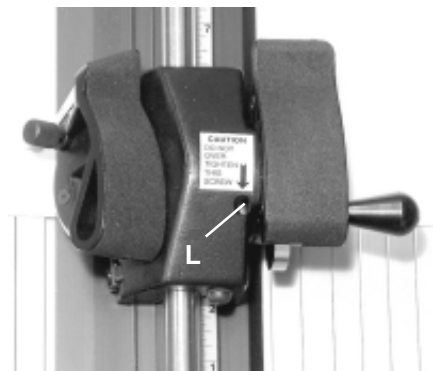

Figure 20
3. If the **Cutting Head** makes a rumbling noise it is caused by paper debris on the **Mat Clamp** or **Ball Bearings**. First, wipe the top of the **Mat Clamp** thoroughly. Slightly loosen the set screw (**L**) shown on the previous page in Figure 20. Tack down one end of a 6" strip of tape on the top of the **Mat Clamp** in the path of the **Roller Bearing** and fold the tape back away from the **Cutting Head** so the glue side of the tape is facing up. Slowly slide the **Cutting Head** over the tape. Debris will be transferred to the tape which can be discarded. Repeat this procedure for the other **Ball Bearing** track. Be sure to re-adjust the set screw (**L**) as described on the prior page.